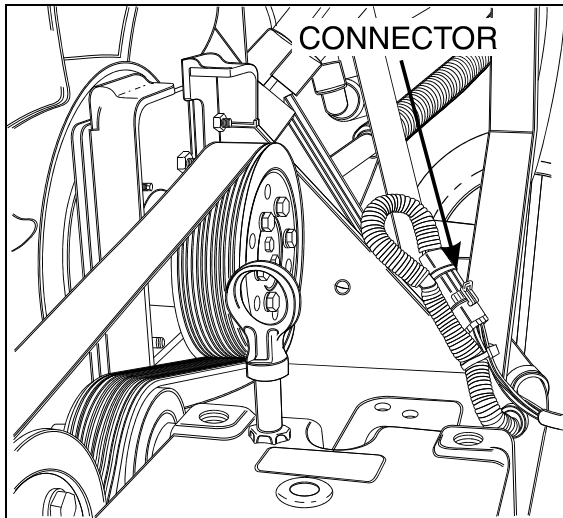

FIGURE 15: ENGINE COMPARTMENT
10. Disconnect the electric fan-clutch connector, close to the water pump (Fig. 15).